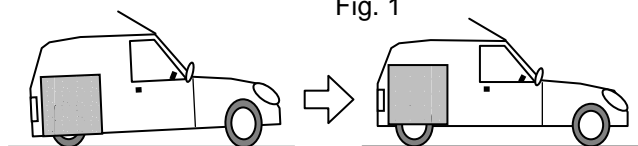

Fig. 2
- **Automatic** corrections, both lengthways and vertically, to bring the vehicle back into its reference trim (Fig. 2–3) on exceeding the speed of 10 Km/h